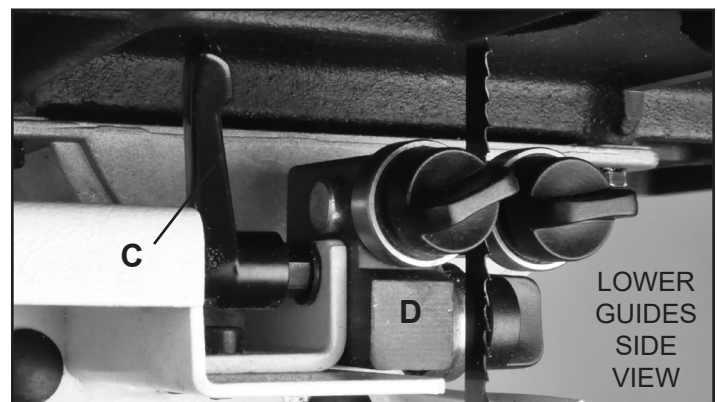

FIGURE 26
2. The guides should be approximately 1/16" behind the gullets of the saw blade. If they need to be moved, loosen the spring loaded Lever Handle (#43, FIG. 26, C), located to the left of the Lower Guide Block (#47, D), and move this block that holds the guides so that the guides are properly positioned behind the blade gullets. Re-tighten the lever handle when done.